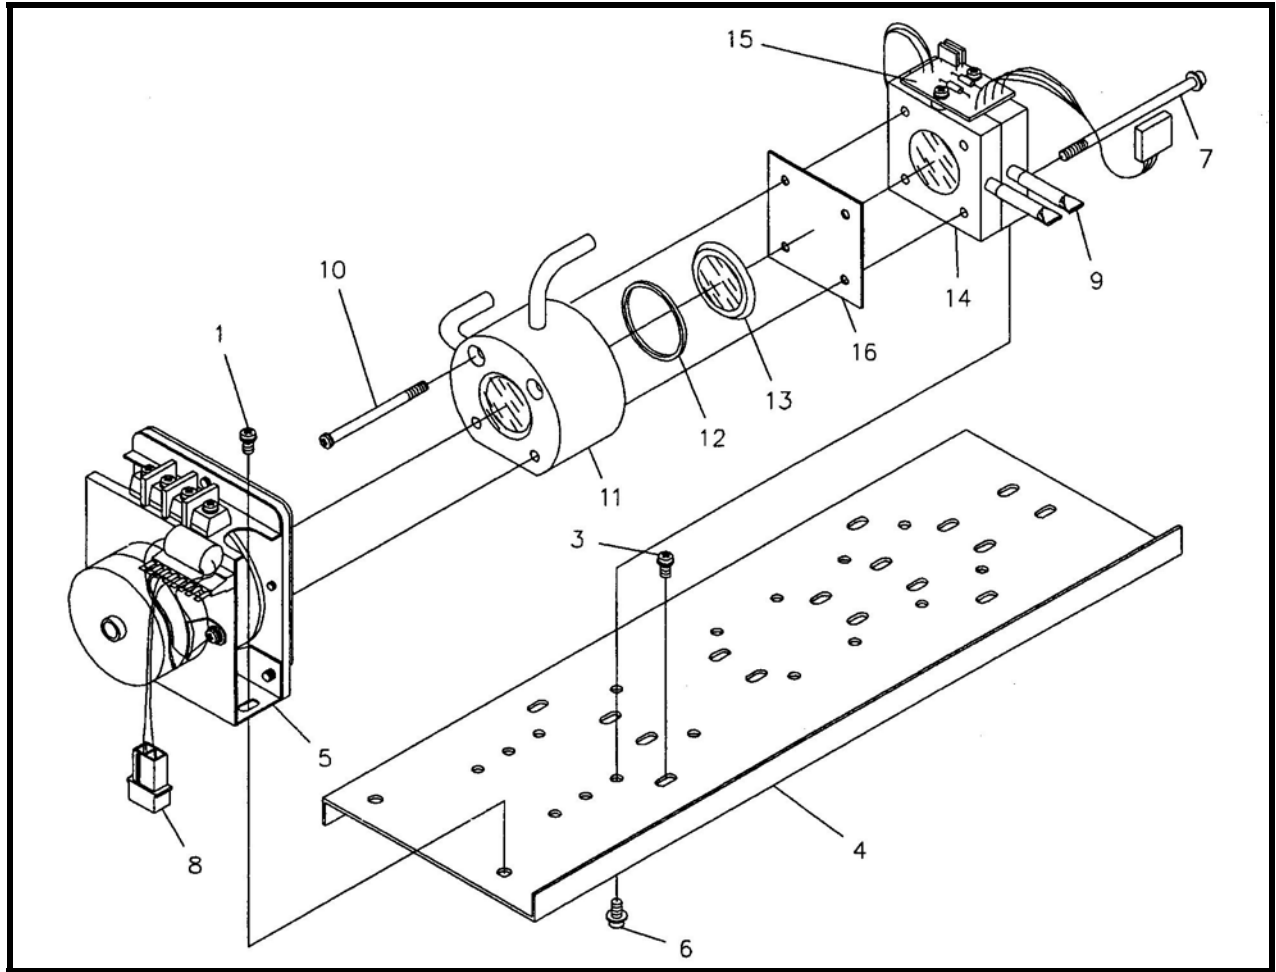

Figure 5-2 Optical Bench with Block Sample Cell
| Block Cell (Cell length: 4 mm, 8 mm, 16 mm or 32 mm) | Figure 5-2 This figure illustrates the block cell. | 5.3.2 describes the disassembly cleaning and reassembly |
(Figure 5-2)
- f) Remove the two screws (No. 7 in Figure 5-2) attaching the detector to the infrared light source assembly and remove the detector from the optical bench. The cell is removed together with the detector as a unit.
- g) While holding the detector in the palm of your hand, remove the two flat-head screws (No. 10 in figure 5-2) which fix the cell to the detector.
Note: The cell window (No. 10 in figure 5-2) is loose and is only retained by the clamping action between the detector and the block sample cell. Take care not to drop the window when separating the block cell from the detector.
Note: the cell window (No. 10 in figure 5-2) is loose and is only retained by the clamping action between the detector and the block ample cell Take care not to drop the window when separating the block cell from the detector.